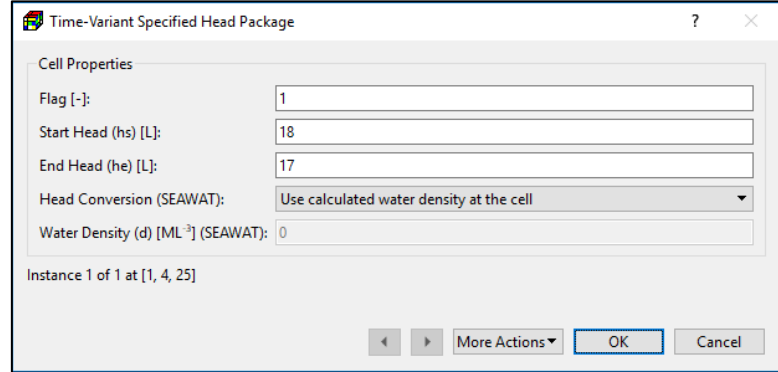

Figure 79. The Time-Variant Specified Head Package dialog box
1. **All input methods**³⁶: Figure 79 shows the dialog box for specifying cell, vertex, or polygon properties.